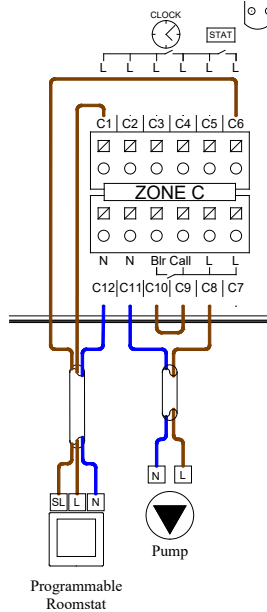

Figure 6: Zone Block C wired with a programmable thermostat and circulation pump
In Figure 6 above a clock is powered from 1 with its neutral from terminal 12 and its Switch-Live (SL) back to terminal 4. Terminal 4 is internally linked to 5 which supplies a room thermostat with a SL back to terminal 6. Terminal 6 is internally linked to terminals 7, 8 & 9. Terminal 8 supplies a pump with its neutral from terminal 11 and there is a link from terminal 9 to 10 to close the boiler relay.
See Figures 6, 7 & 8 for examples of zone circulator wiring.